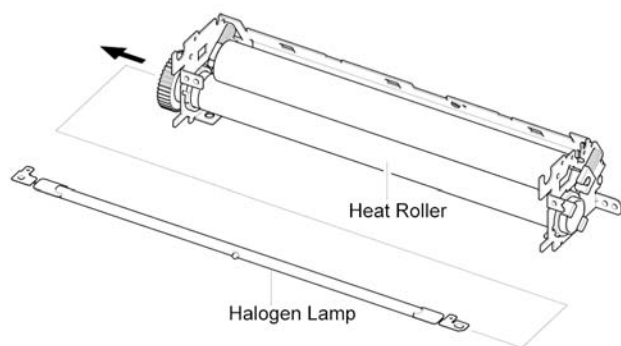

**Figure 11**
13. Remove 2 screws securing the cover-M and remove it, Figure 11.